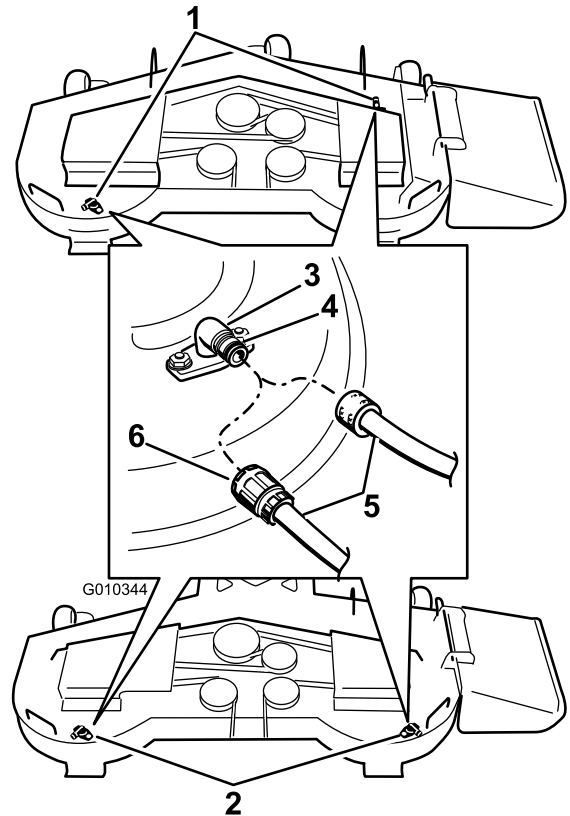

Figure 70
3. Attach the hose coupling to the end of the mower washout fitting, and turn the water on high (Figure 70).